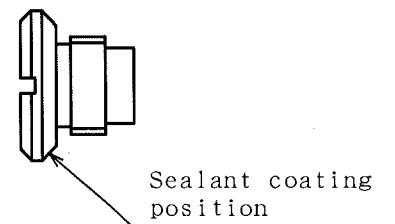

Fig. 13
- ② Degrease Lock screw (4) and the tapped hole of Gear housing (1) using solvent.
- ③ Apply sealant to the bearing surface of Lock screw (4) and tighten it with a torque of $20 \sim 25 \text{ N} \cdot \text{m}$ ($2.0 \sim 2.5 \text{ kgf} \cdot \text{m}$) (see Figure 13).